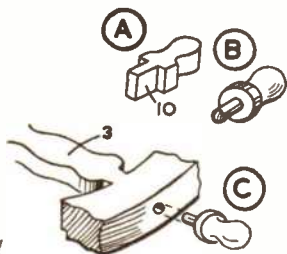

Fig. 1
The spokes of the ship's wheel should be partly rounded and pieces (10) are cut and shaped from the solid as shown in the various stages in Fig. 1. Make eight of these and insert them in holes drilled
Join the flex to the lampholder and fix the lampholder and lamp in the tin as shown in Fig. 1.